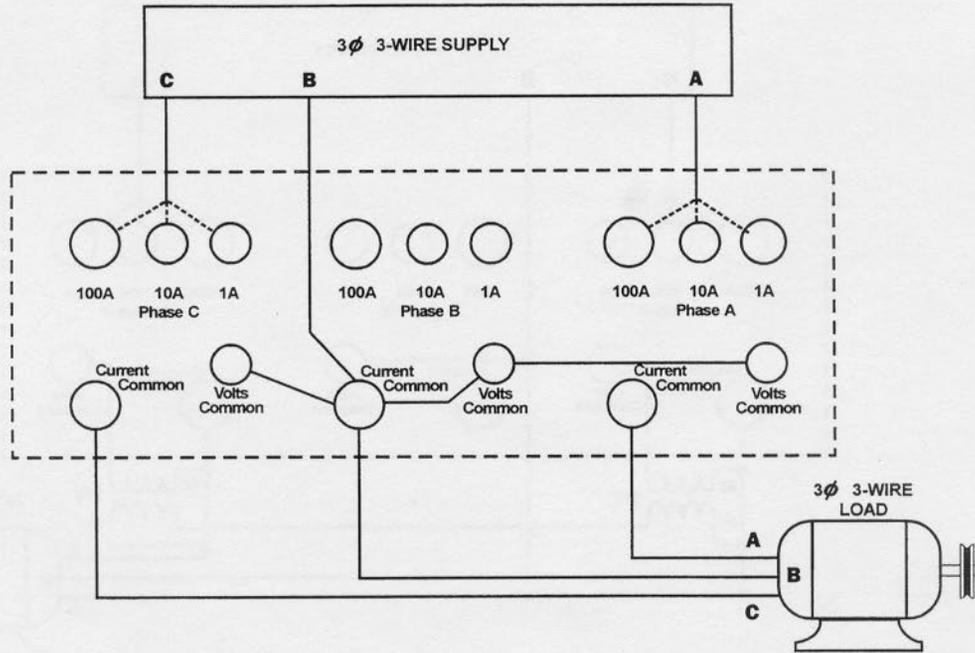

Figure 6-9. Three-Phase Three-Wire Load Power Connections
Connect the wattmeter as shown in Figure 6-9. **Caution!** Do not run phase B current through the VOLTS COMMON terminals. Tap off the phase B wire to connect the VOLTS COMMON terminals.
- 1) Connect the 2300 as shown in Figures 6-9 to 6-16 as determined by your application. Make connections to the appropriate current shunt terminals for the expected range of current levels.